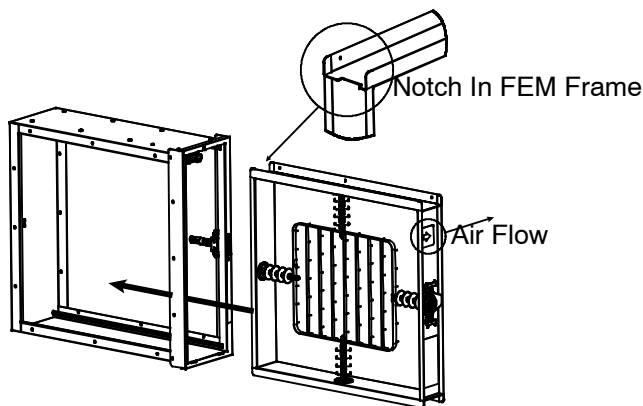

Fig. 15 - Installing FEM
1. Install the Filter Enhancement Module (FEM) into the cabinet, insuring that FEM is held firmly in place by the retention springs and that the high voltage connector/handle is facing outward. See Fig. 15.